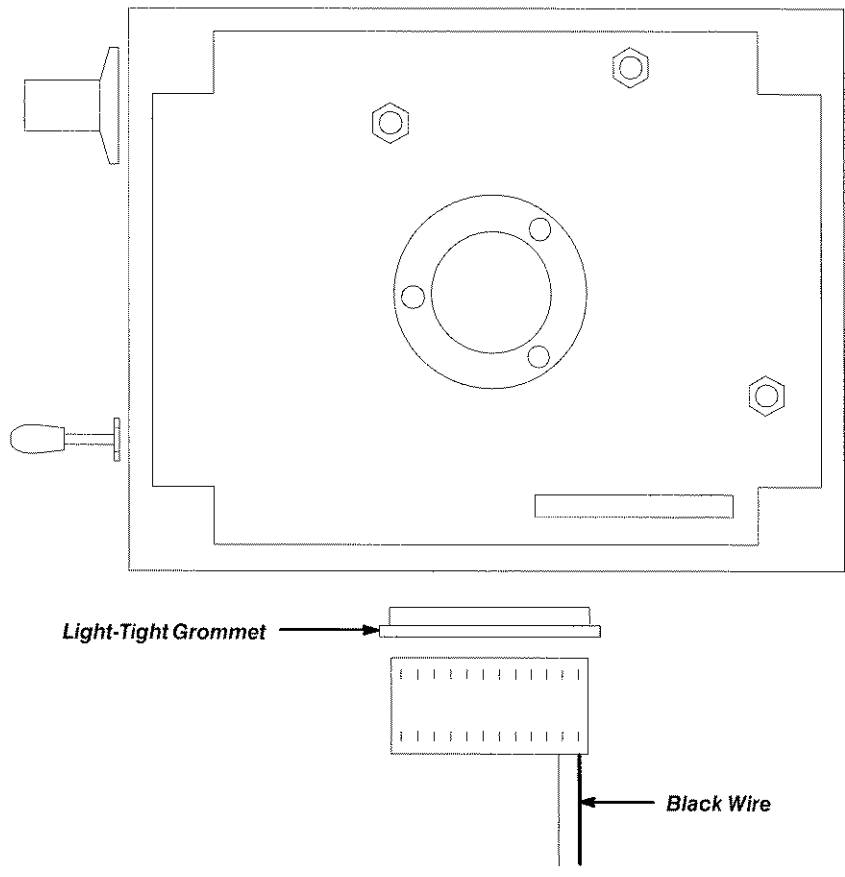

Figure 23: Cable Orientation
- Step 7:** Gently lift the camera control housing, taking care not to stress the cable assembly that connects to the bottom of the housing. If you tilt the housing on edge so that the cable assembly is at the bottom, you can study the orientation of the cable connector (Figure 23). Disconnect the cable by pulling it straight out from its access slot.
A new assembly can be installed, or the existing one replaced, by reversing the disassembly procedure. Study Figure 23 to reconnect the cable connector properly.
A new assembly can be installed, or the existing one replaced, by reversing the disassembly procedure. Study figures 23 and 25 to ensure that you reconnect the cable connectors properly.